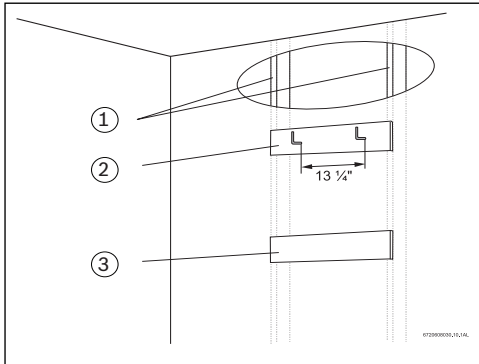

Fig. 7 Support board
The heater must be mounted on a wall using appropriate anchoring materials. If wall is a stud wall sheathed with plasterboard, it is recommended that support board(s), either 1x4's or 1/2" (minimum) plywood first be attached across a pair of studs and then the heater should be attached to the support boards, see Fig. 7.
- ▶ Secure the two included L shaped hooks to wall studs or support board 13 1/4" apart. (See Fig. 7).